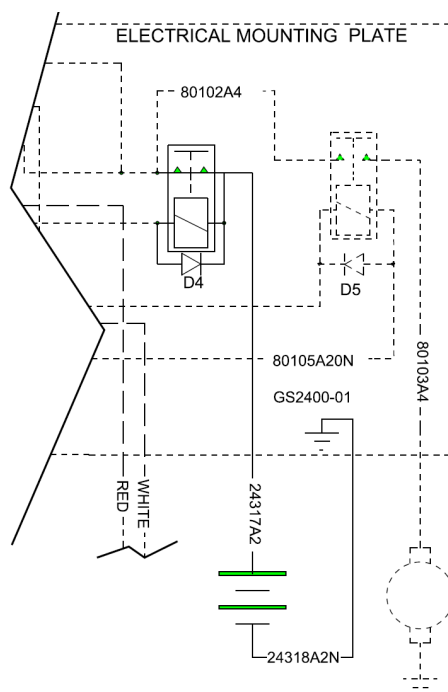

Figure 1. Schematic of battery cables
7. Install the new battery cables (items 3 and 4) to the electrical shelf. Refer to Figures 1 and 2.